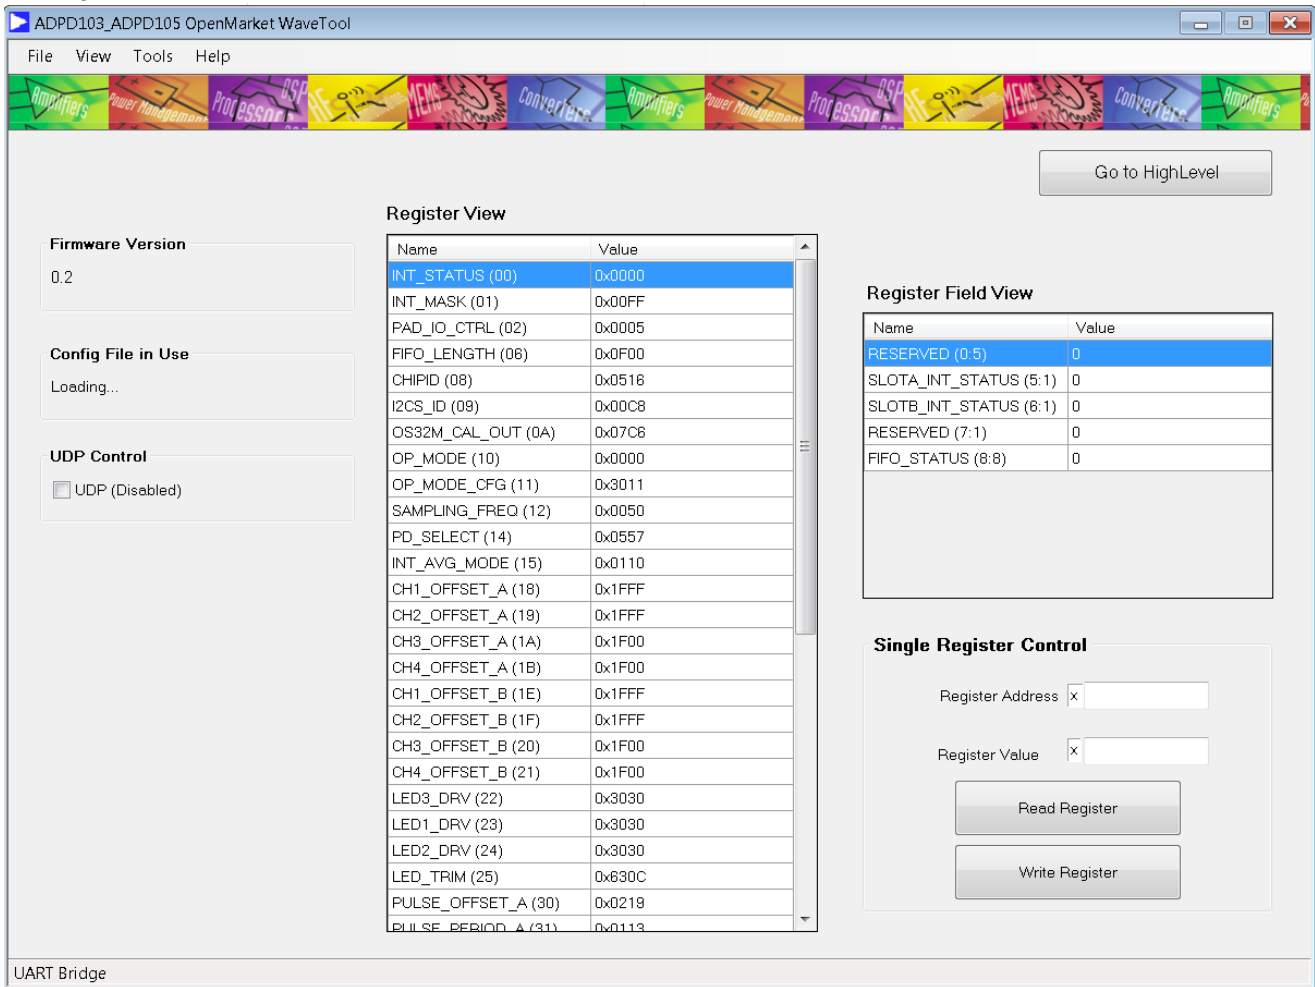

Figure 8. RegisterLevel Window
The main window has two different modes: register level (**RegisterLevel**) and high level (**HighLevel**), shown in Figure 8 and Figure 16, respectively.
Figure 8 shows the **ADPD105** configuration window in the **RegisterLevel** window. The following controls and descriptions are listed in the configuration window:
- **Register Field View** shows how the register is subdivided into fields that determine how each bit field is used. For example, Figure 8 shows the **PAD_IO_CTRL**, Register 0x02, is composed of the bit fields **INT_POL**, **INT_DRV**, and **INT_ENA** to configure the operation of the **INT** pin.